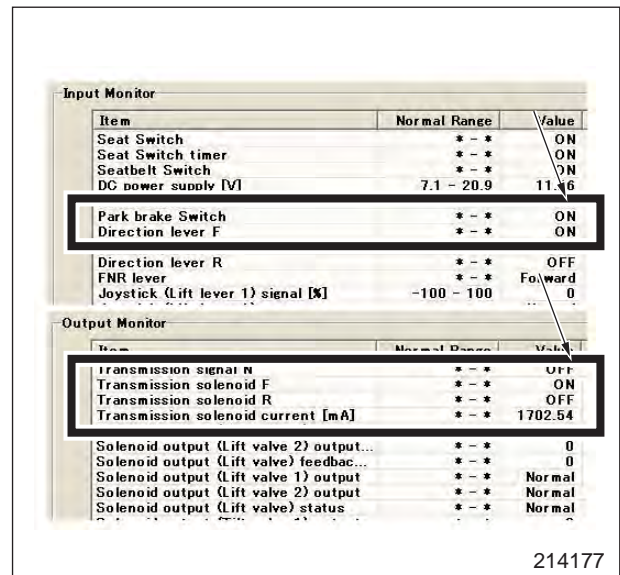

Fig. 2-2 Input/output monitor screen
- (5) Display the output monitor screen (VCM-1M) from the service tool.
- (6) Place the direction lever in the FORWARD position. Make sure that shift lever (F) Input and T/M control valve (F) output indicate ON and the T/M control valve current is 2000mA or around on the screen. (Fig. 2-2)